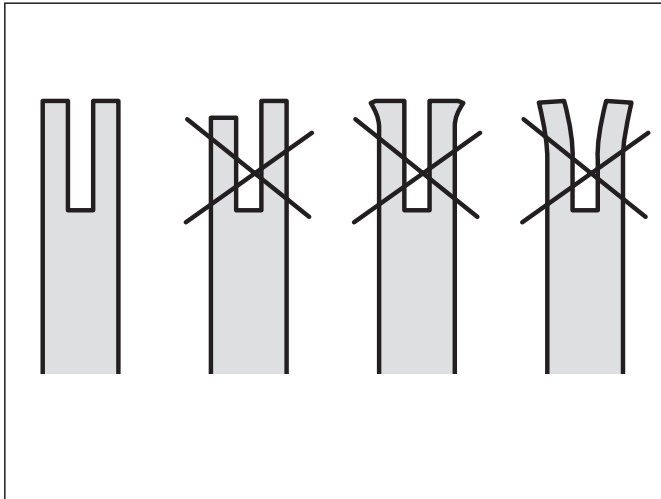

Fig. 32
5. Check the guide bar 'rail' for wear: Hold a ruler (straight edge) against the side of the guide bar and 'cutter side plates'. If there is a gap between the ruler and guide bar the guide bar 'rail' is normal. If there is no gap (ruler flush against the side of the guide bar) the guide bar 'rail' is worn and needs to be replaced with a new one of the same type(Fig.32) .